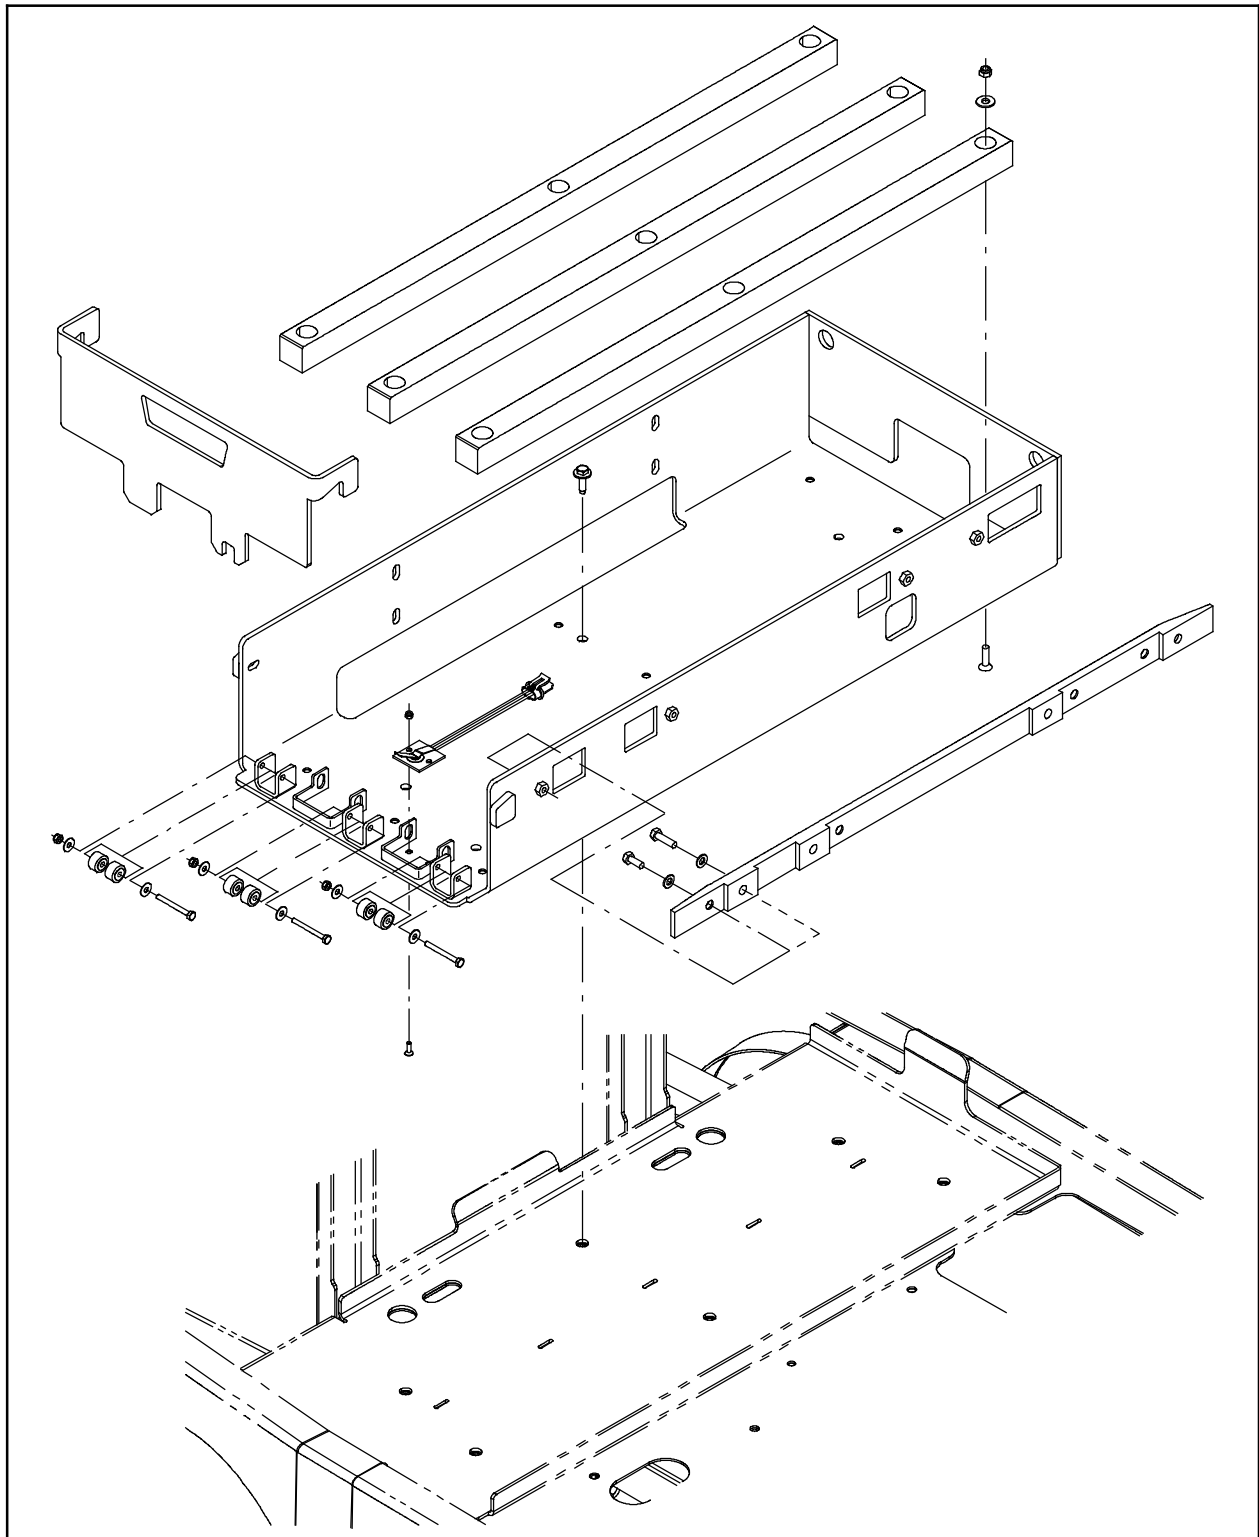

FIG. 1
only: Remove the slide out battery assembly from the machine. Set slide out assembly and all hardware aside. These items are reinstalled after the overhead guard is installed. (Fig. 1)
30. **Machines with slide out battery option only:** Reinstall the slide out battery assembly. (Fig. 1)